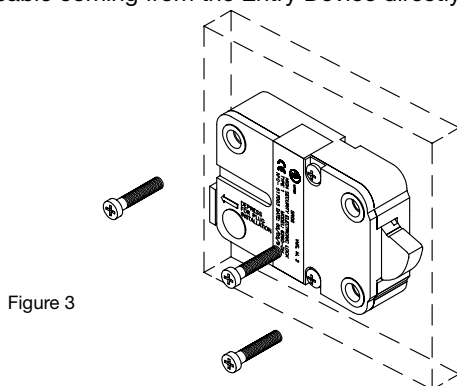

Figure 3
4. Mount the lock with the three US 1/4-20 (Metric M6X1) screws. The recommended torque for mounting screws on the Swing bolt lock is 30 in./lbs. (3.4 N•m). (Figure 3.)